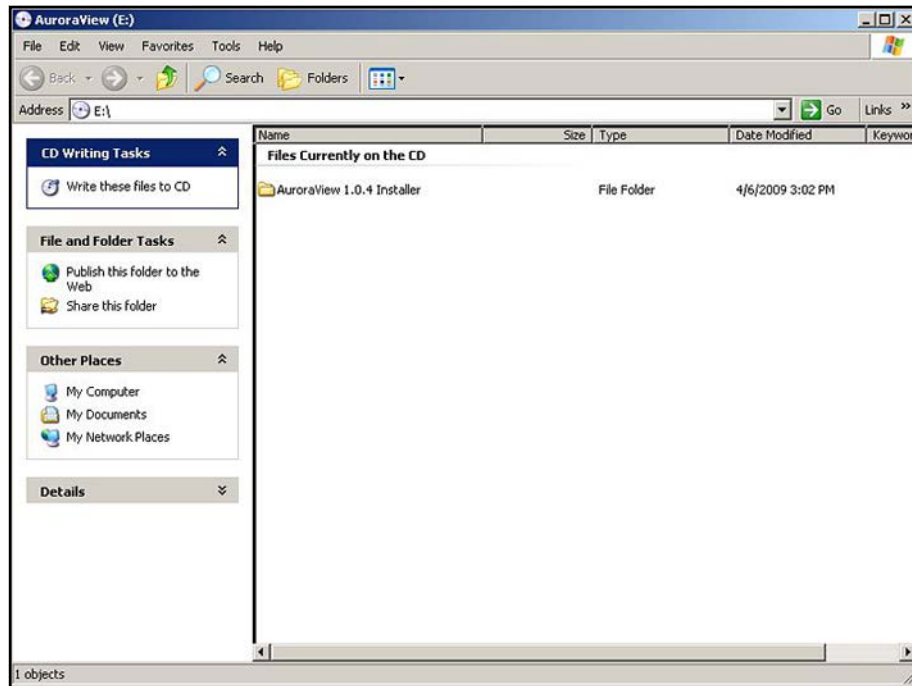

Figure 51: Initial Screen
2. The installation program should launch automatically (see *Figure 51* below). If it does not, select **Start** → **Run** → **Browse**.